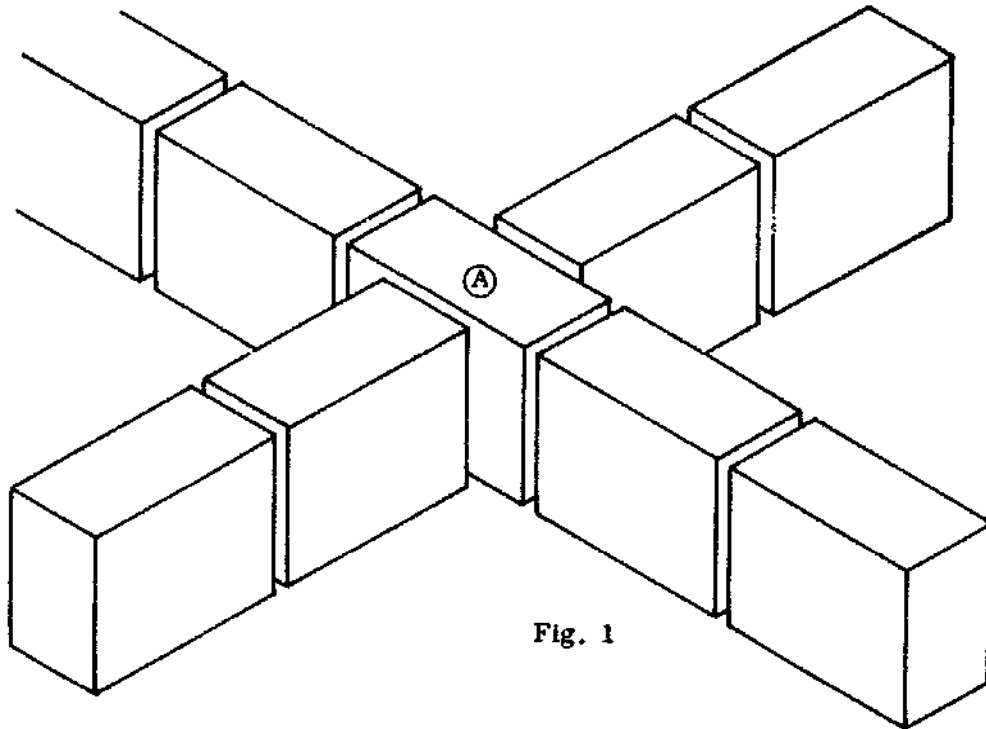

Fig. 1
- All through blocks (Figs. 1 & 2, blocks A & B) project from the crossed wall by 12 cm at one end (12 cm is $1/4$ block plus the joint). These blocks are followed by $1/4$ blocks at the other end (Figs. 1 & 2).
- All crossed walls contain a $3/4$ block (Figs. 1 & 2, blocks C & D) set directly against the through-going block. This $3/4$ block is on the opposite side from the $1/4$ blocks in the course below (Fig. 1). The crossed wall continues with a full block (Figs. 1 & 2, blocks E & F) and a 5 cm block, on the other side from the $3/4$ block.